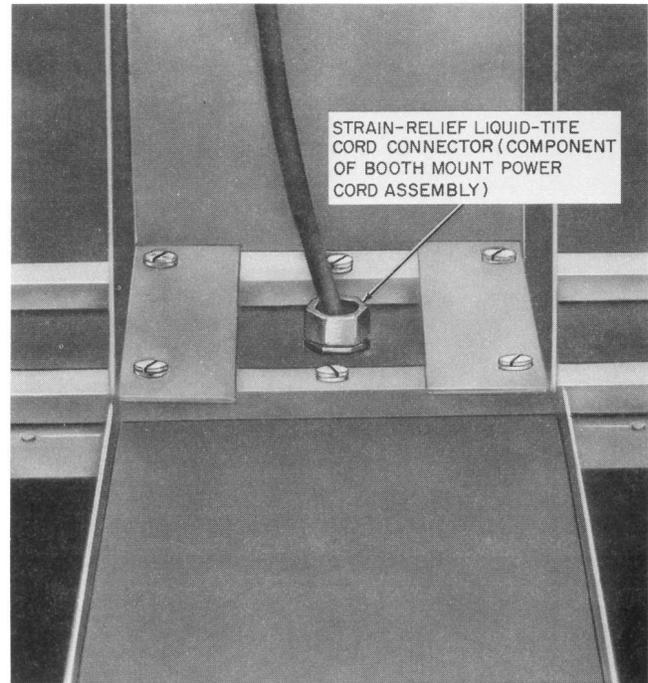

Fig. 34—Booth Bracket and Power Cord Installed on Top of Telephone Booth
(f) Remove cover (item 4) from booth bracket (item 3). Locate bracket over the four 1/4-inch tapped holes in mounting bars (Fig. 34). Secure bracket to mounting bars using items 6 and 9.